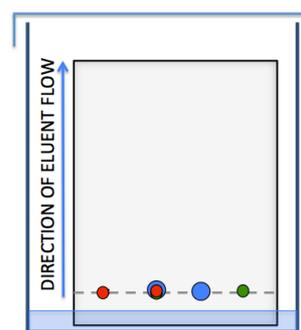

Figure 4. Eluent movement
3. The lower edge of the plate is immersed in the eluent so that eluent does not reach the spots on the starting line. To avoid evaporation of eluent away from the plate the elution chamber is covered with a lid. Eluent starts moving upward through the solvent layer due to capillary forces (Figure 4).